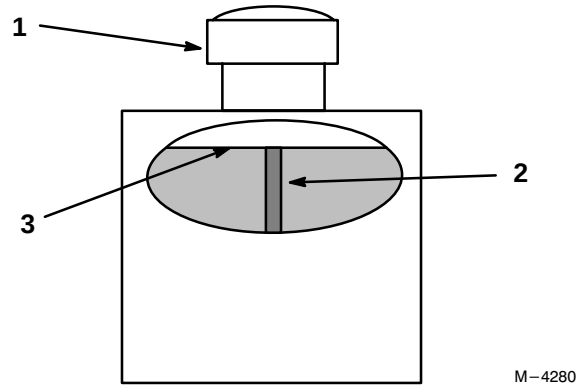

Figure 42
2. Clean area around filler neck of hydraulic tank (Fig. 42).
3. Remove cap from filler neck and look inside to check fluid level. Fluid level should be above the baffle inside the tank (Fig. 42).
4. If level is low, add fluid to raise level to above the baffle (Fig. 42).